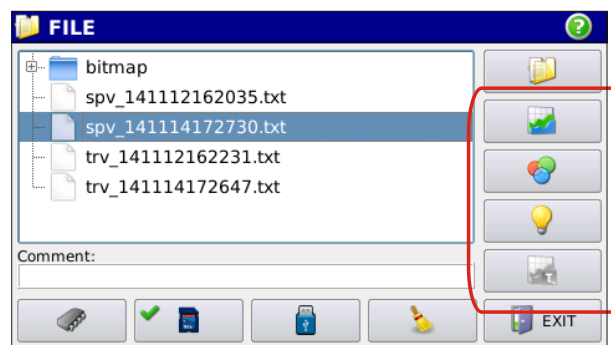

Fig. 4.12: Data contained into selected file can be displayed by using the highlighted keys.
4.5.1 Select the desired file. The selected file will appear on BLUE background (fig. 4.11); at this stage, the file can be displayed using the buttons on the right of the screen (fig. 4.12).